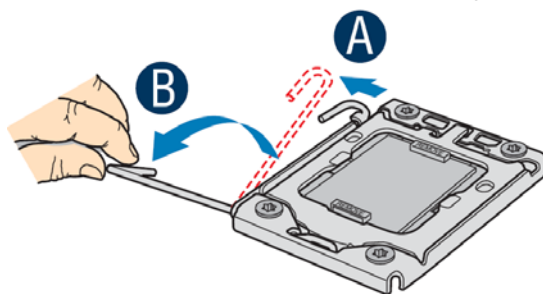

Figure 28. Opening the Processor Socket Lever
5. Locate the processor socket, push the lever handle down and away from the socket to release it (Step “A” in Figure 28), and rotate the lever open all the way (Step “B” in Figure 28).